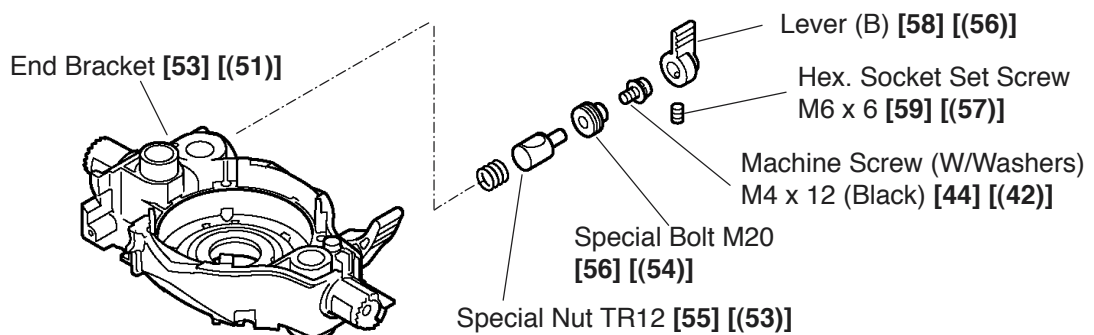

Fig. 15
(8) Remove the Special Nut TR12 [55] ([53]) (Fig. 15)
- (a) Loosen the Hex. Socket Set Screw M6 x 6 [59] ([57]) and remove Lever (B) [58] ([56]).